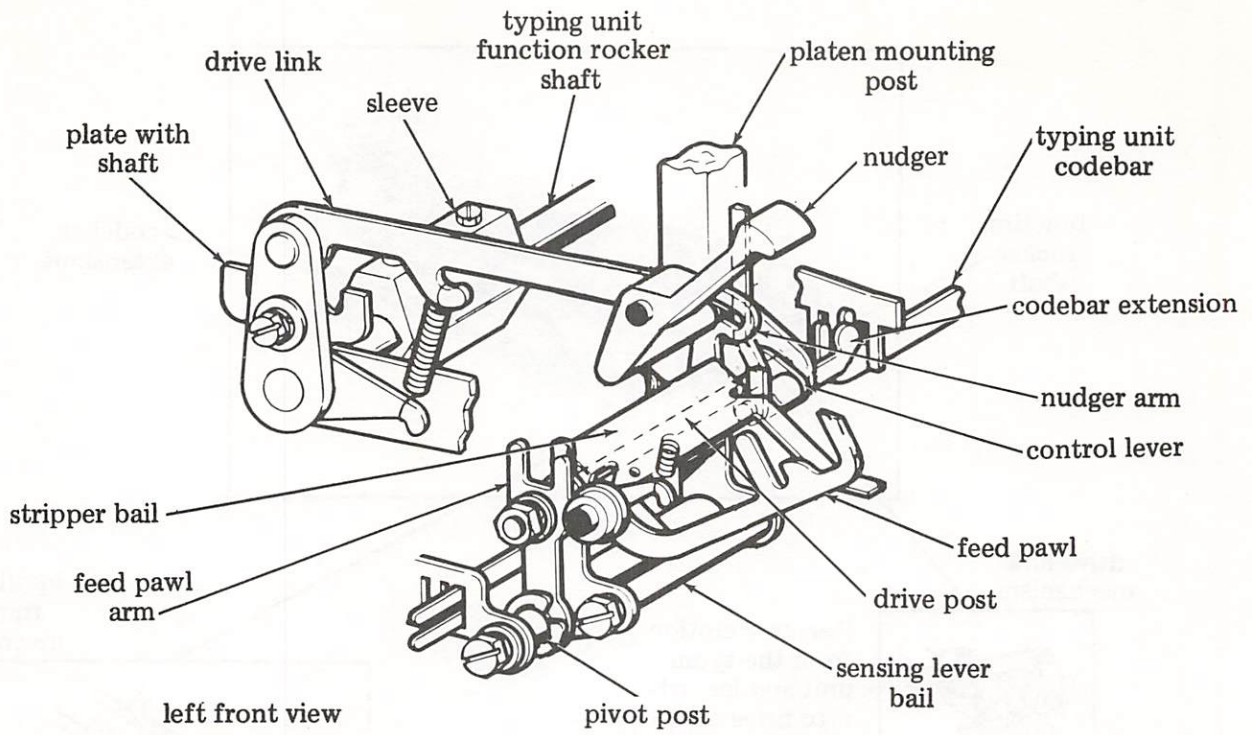

Figure 3 - Drive Mechanism
3.02 The rocking motion of the typing unit function rocker shaft is transferred to the tape punch through a sleeve on the rocker shaft, to a drive link and a plate with shaft on the punch (Figure 3). The drive link, attached to the plate with shaft, connects to the drive post and simultaneously drives the nudger, feed pawl, and stripper bail. The drive link also supplies the downward force to the sensing lever bail which pulls the selected pawls.
3.12 As the drive mechanism (Figure 3) rotates clockwise, the feed pawl slides along the inclined surface of the adjacent ratchet tooth, drops behind it, and is cammed away from the feed wheel ratchet. Occurring simultaneously, the sensing levers in the marking position rotate counterclockwise and transfer their motion to the selected pawl, lever, and code-punch pin combination. At the same time, the drive mechanism transfers its motion to the sensing levers which are spacing. Since the pawl, lever, and code-punch pin combinations are in the nonselected position, no motion is transferred to them. This results in no perforation of the tape, since the code-punch pins remain in their most downward position below the tape's surface. As the drive mechanism continues and reaches its most clockwise position, the code-punch pin of a selected pawl, lever, and code-punch pin combination travels upwards, perforates a hole in the tape, and continues to its most vertical position. The feed hole is always perforated in the tape since its pawl and lever are always selected.
3.14 During the drive mechanism's clockwise motion, the nudger (Figure 3) performs its function. Motion is transferred from a cam profile, located on the nudger arm, through a post molded as an integral part of the nudger. The nudger rotates counterclockwise, engages, and nudges the tape gently when the selected code-punch pins are engaged with the tape. This enables the tape to be advanced a small amount without affecting tape feed spacing, since only the weight of the paper between the tape roll is reflected to the feed wheel when the tape is being advanced.